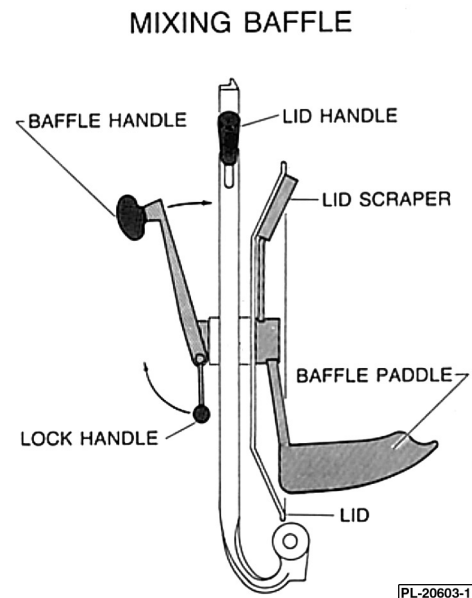

Fig. 3
**Mixing Baffle:** Insert shaft of mixing baffle into hole in the center of the lid. With baffle paddle down, hold baffle handle at an angle so lock handle hangs down and insert onto shaft. Then tighten lock handle (Fig. 3).